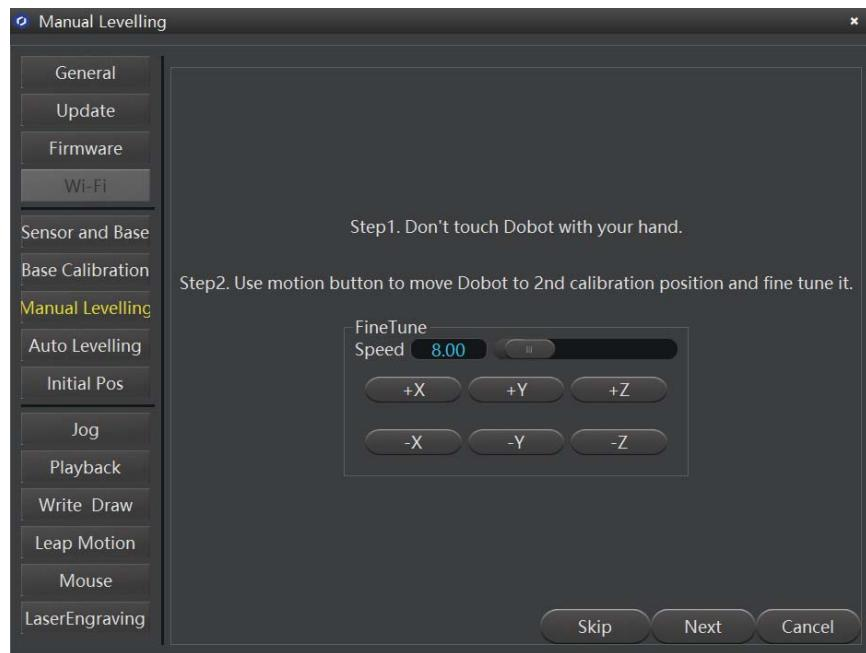
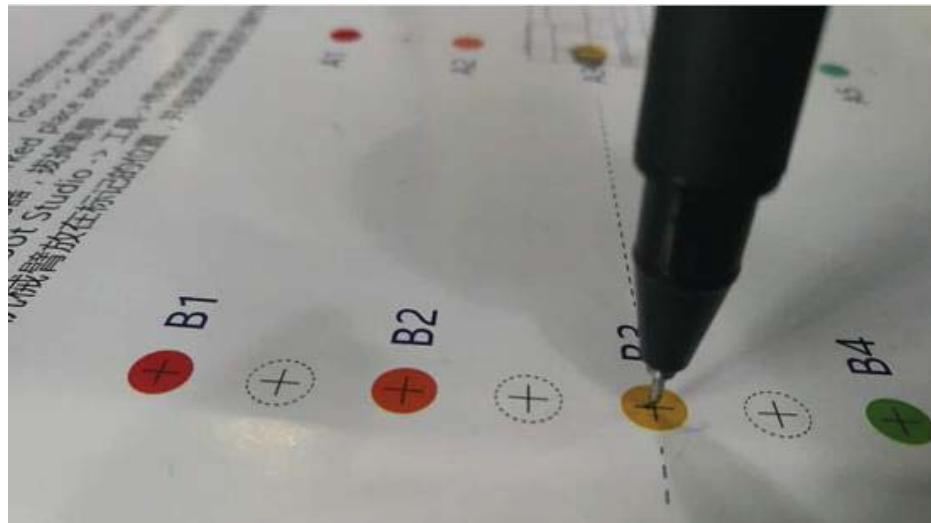

Figure 5.163 Fine-tune page
Figure 5.164 Nib position on the second calibrated point
**Step 6** Click **Next** and follow the instructions on the **Manual Levelling** page (as shown in Figure 5.163) to move Dobot Magician to make the nib in the center of the second calibrated point. If the calibrated point is **B3** on the calibration board, as shown in Figure 5.164.